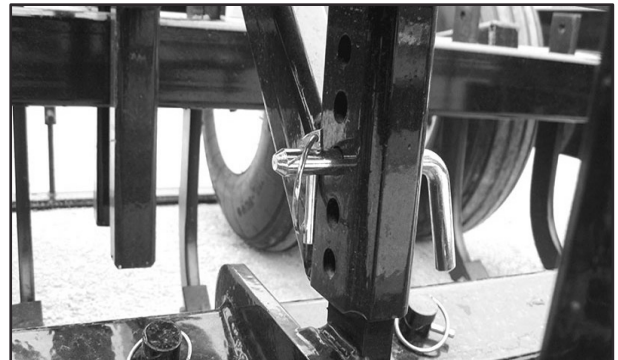

Figure 3-5
3. There is an adjusting nut located on the two inside corners connecting the bars to the frame. **Do not remove these adjusting nuts!** Adjust the grooming rod height by turning the screw up or down to raise or lower the bars. ABI recommends that the adjustment screw is only turned in 1/2" increments. Count the number of times the nut is turned for adjustment, and make sure to use the same number of turns on the other side. (Fig. 3-5)